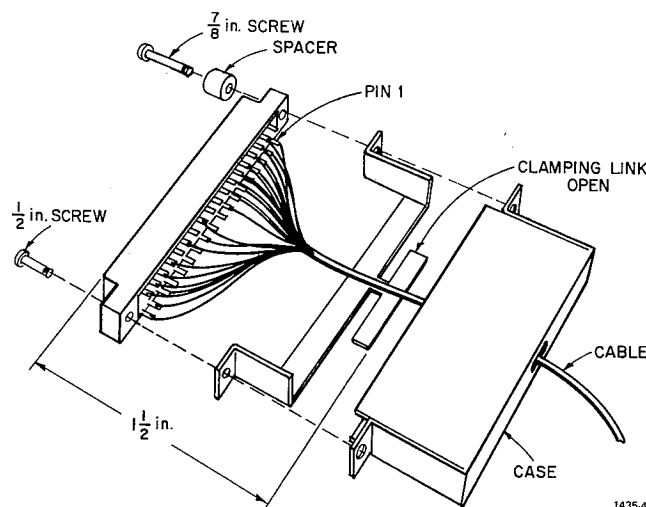

Figure 2-3. Remote programming connector plug assembly.
A 36-contact, multiple-socket Connector Set, P/N 4230-1018, (Figure 2-3) is supplied for making connections to J8. The assembly procedure for the socket is as follows:
- When all connections have been made, place the cable on the open strain-relief clamping link, as shown in Figure 2-3. Allow approximately 1.5 in. between the front edge of the contacts and the link, as shown.
g. Slip the spacer (supplied) over the longer of the two screws. Pass the screw through the clearance hole in the flange nearest pin 1, through the hole in the clamp, and thread it into the tapped hole in the flange of the case (see Figure 2-3). The spacer prevents incorrect polarization of the socket. Tighten the screw.